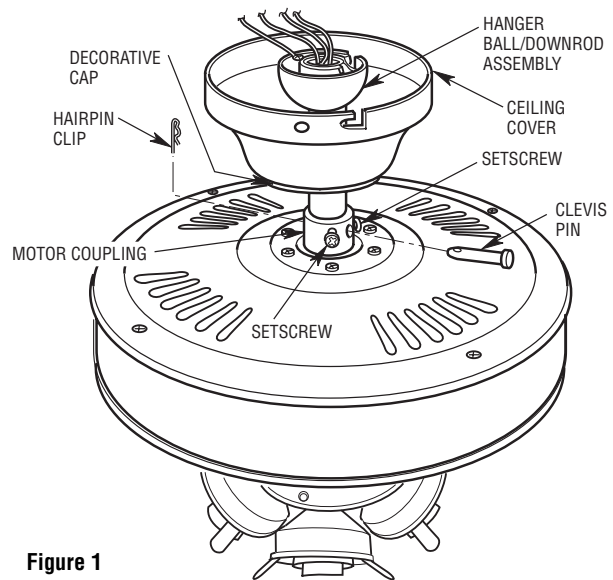
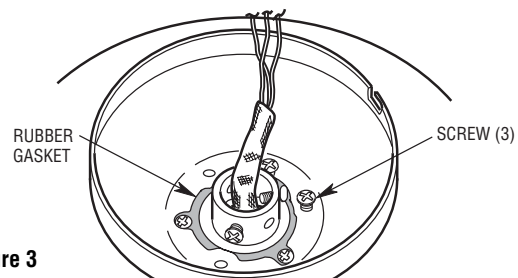

Figure 1
Figure 3
3. Loosen the two setscrews in the motor coupling. Align the clevis pin holes in the downrod with the holes in the motor coupling. Install the clevis pin and secure with the hairpin clip (Figure 1). The clevis pin must go through the holes in the motor coupling and the holes in the downrod. Be sure to push the straight leg of the hairpin clip through the hole near the end of the clevis pin until the curved portion of the hairpin clip snaps around the clevis pin. The hairpin clip must be properly installed to prevent the clevis pin from working loose. Pull on the hanger ball to make sure the clevis pin is properly installed.
4. While pulling up on the hanger ball, securely tighten the two setscrews in the motor coupling (Figure 1).
3. Gently pry the decorative cap (Figure 1) from the ceiling cover. Align the holes in the ceiling cover with the holes in the motor housing and secure using the three screws (Figure 3).